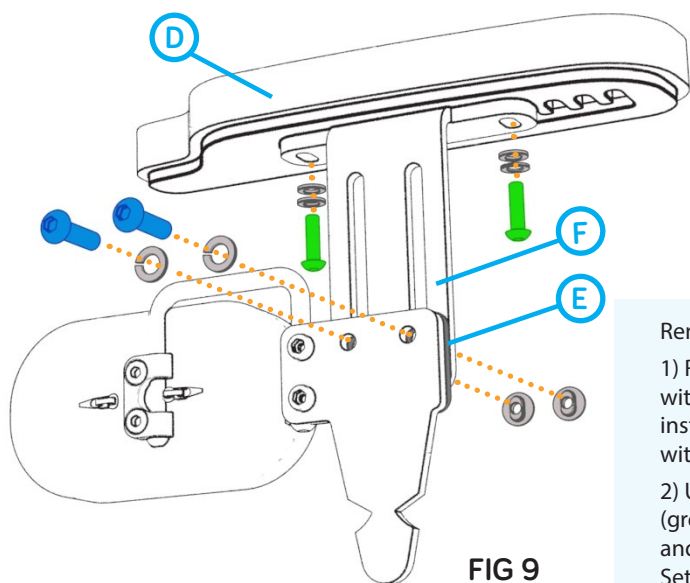

FIG 9
1) Remove the screws (blue FIG 9) that secure the arm supports height bracket (F) with the washers, T-nuts and plastic spacer block (E) and place to one side for re-installation. Rotate this bracket and arm support 180° and reattach spacer block with fasteners in the order they were removed.